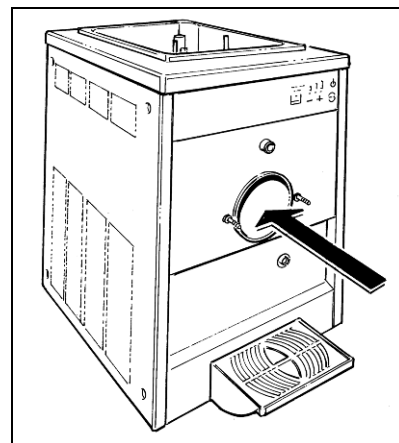

Fig. 19
- Wash the freezing cylinder and top tank thoroughly, removing any remaining product with a clean sponge soaked with the sanitizing solution making sure to completely wet all surfaces for at least 60 seconds. Let air dry. Follow local health ordinances (see figure 19).